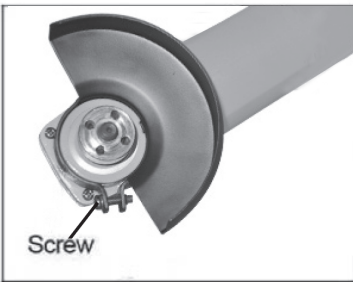

Fig 2
2. ADJUSTING WHEEL GUARD (see fig 2)